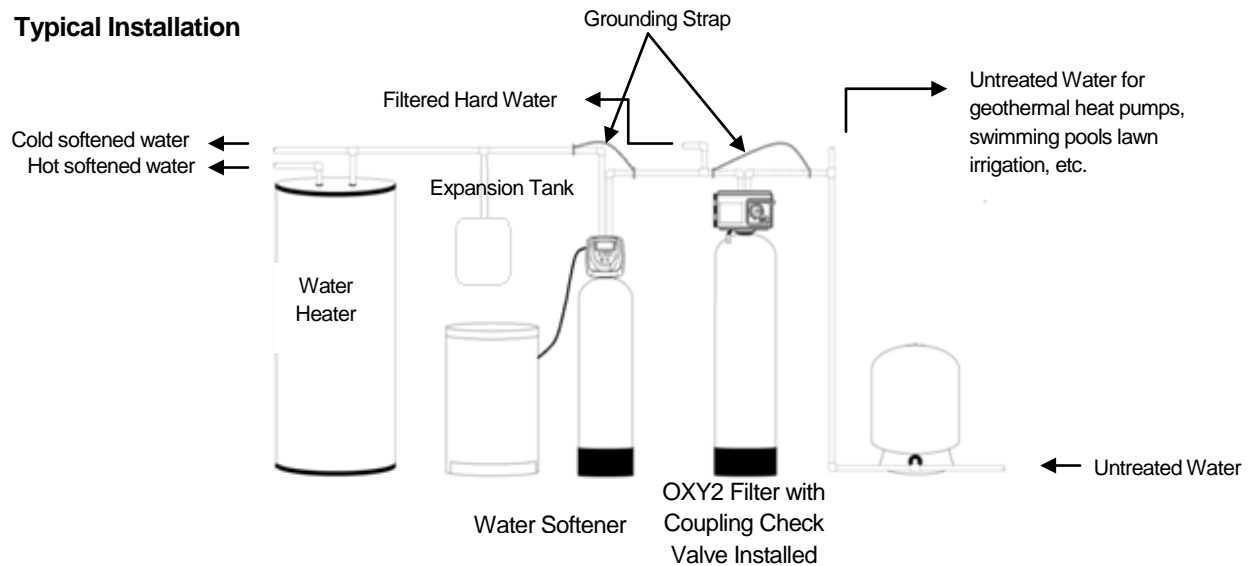

FIGURE 1: Typical Installation
7. Appliances requiring extended periods of continuous or high flow water use (i.e. geothermal heat pumps, swimming pools, lawn irrigation, outside hose bibs, etc.) should bypass the filter and a spring check valve should be installed on the filter inlet to prevent backflow of air from the filter tank (see installation diagram Fig. 1).